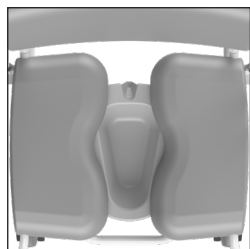

Figure 8. Lopital plastic bedpan.
- If you are using the Lopital plastic bedpan, you must slide it as far forward as possible (See figure 8).